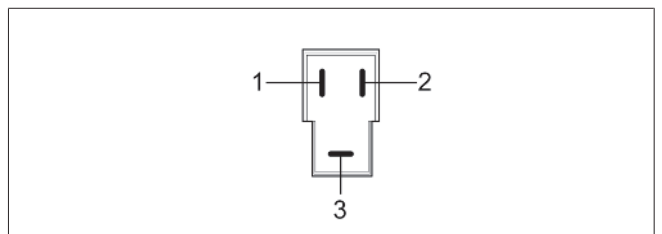

Fig. 6: Electrical connections
- ▶ Make the electrical connections according Fig. 6. See „chapter 9 for power and fuse requirements. Avoid fitting relays, fuses and switches close to refrigerant connections.